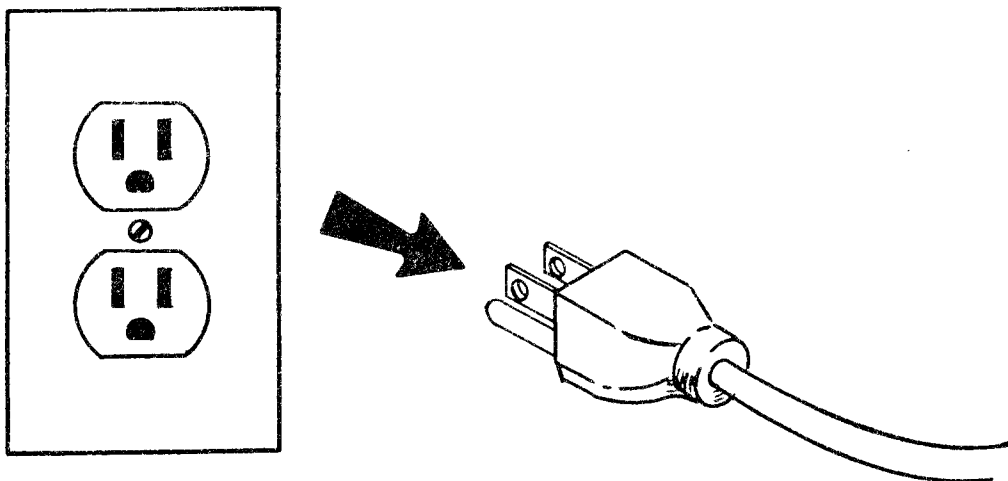

Figure 82. Disconnect Cord from Power Source
- b. Make sure the power cord is disconnected from any power source if you have connected this cord (see Figure 82):